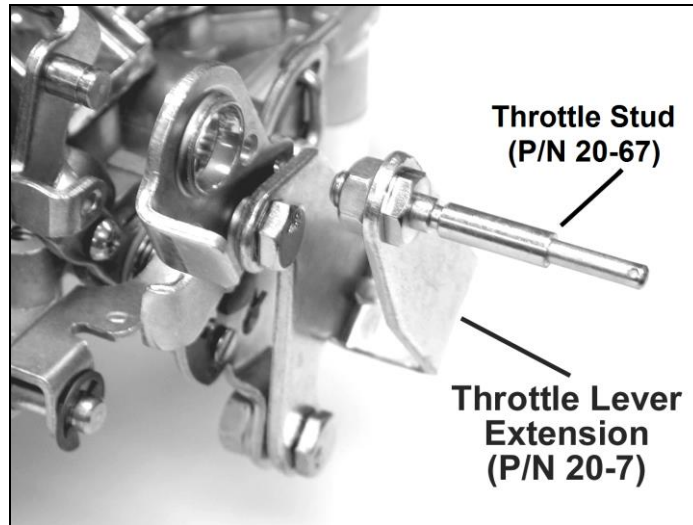

Figure 4—Chrysler applications
1. Unless you are replacing an existing Holley® carburetor (which already has a lever extension arm), you may need to purchase and install a throttle lever extension (Holley® P/N 20-7) on the carburetor. Remove the throttle stud and nut from the original carburetor. You can purchase a new stud from your Holley® dealer (Holley® P/N 20-67). Install the stud in the throttle extension lever (**Figure 4**).